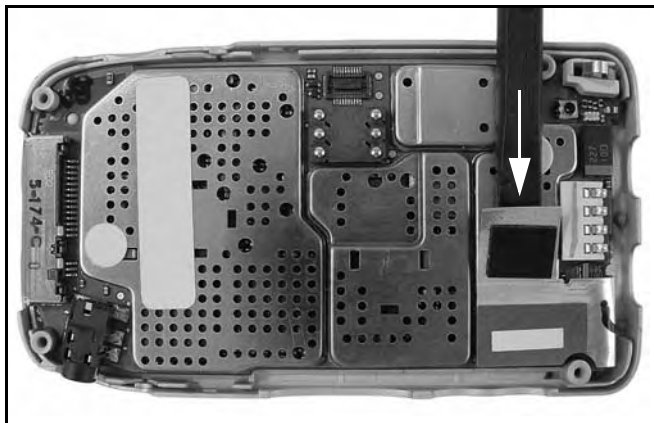

Figure 7-7.
1. Wedge black stick under 50-pin flex connector. Gently pry upwards along length until release (see Figure 7-7).